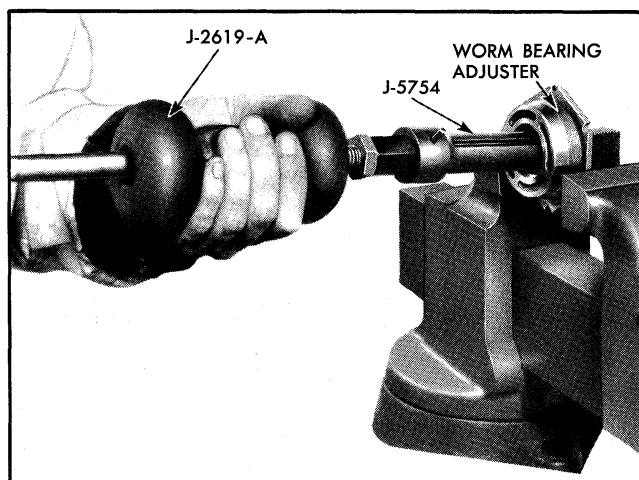

Fig. 9-23 Removing Bearing Cup from Worm Bearing Adjuster
1. Remove lower cup from worm bearing adjuster (Fig. 9-23) using tool J-5754 and J-2619B slide hammer.